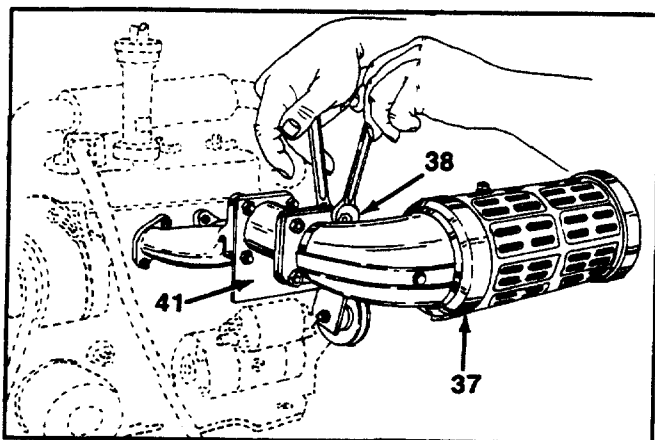

FIGURE 23.
21. Remove the four hex bolts and nuts from muffler and exhaust extension. See figure 23.